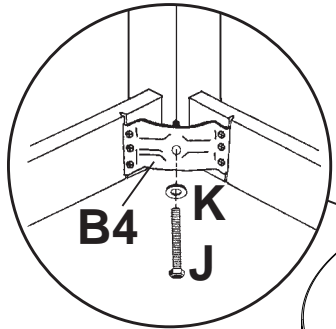

FIG. 6
6. While holding leg and rack assembly together, turn it upside down with rack up. Place leg assembly onto the top assembly (A) and attach each leg to the table apron assembly (B) using Hex Bolt (J) with Washer (K) as shown in FIGURE 6. Now secure Rack Assembly (E) to the Legs (D) as shown in FIGURE 6 using Screws (I).